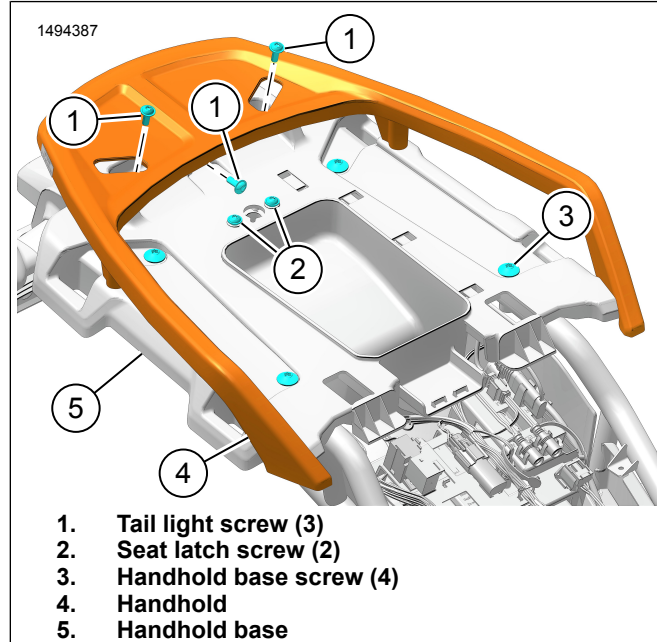
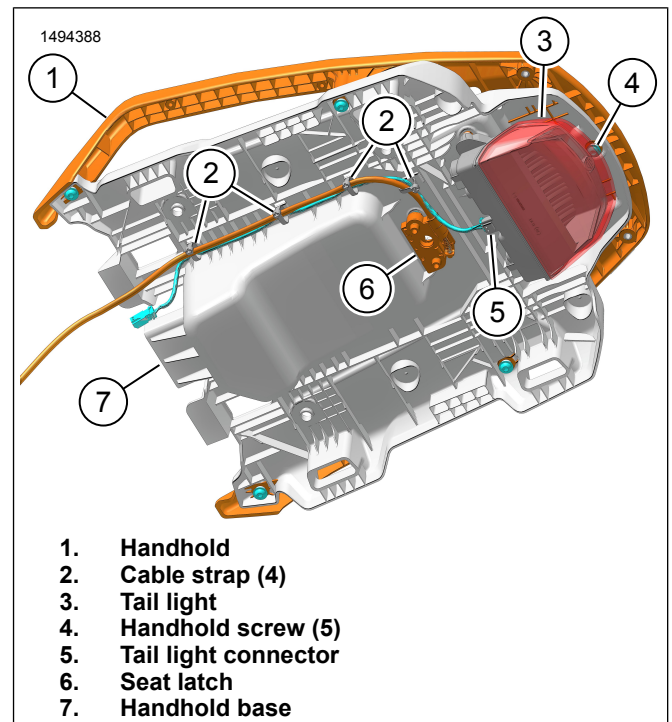
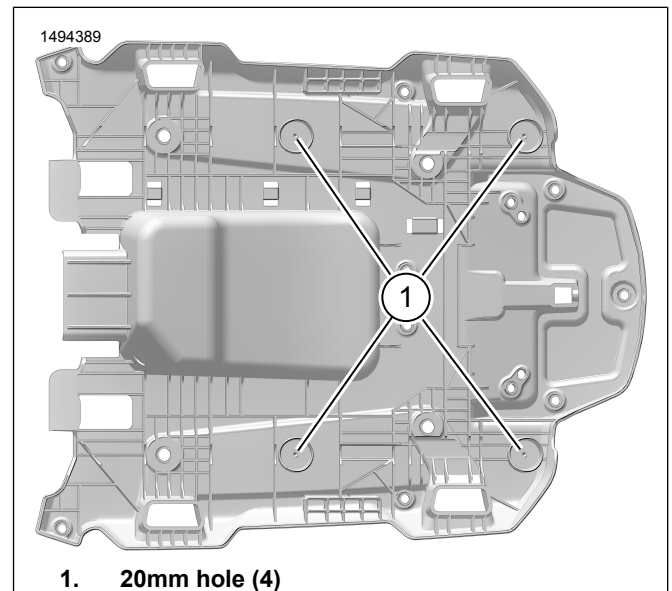

Figure 3. Hand Hold
Figure 4. Disassemble Handhold Base
Figure 5. Handhold Base Holes
1. See Figure 3. Remove handhold base screws (3).
2. See Figure 4. Remove and discard cable straps (2).
3. See Figure 4. Remove tail light (3).
- a. Disconnect tail light connector (5)
- b. See Figure 3. Remove screws (1).
4. See Figure 4. Remove seat latch (6).
- a. See Figure 3. Remove seat latch screws (2).
5. See Figure 4. Remove handhold (1) from handhold base (7).
- a. Remove handhold screw (4).
6. See Figure 5. Drill clearance holes (1).
1. See Figure 4. Install seat latch (6).
2. See Figure 4. Install tail light (3).
- b. Connect tail light connector (5)
3. See Figure 4. Route seat latch cable and tail light harness. Secure with **new** cable straps (2).